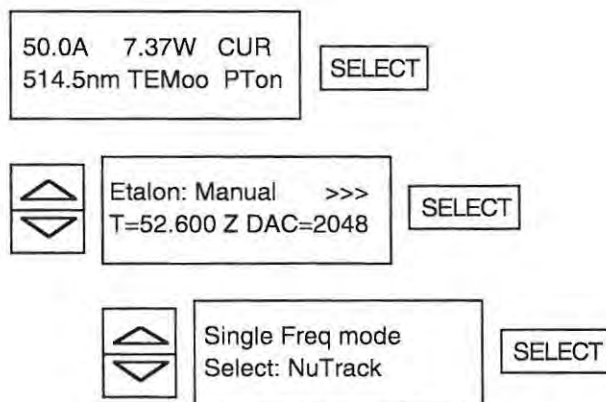

Figure 8-10. Single-Frequency Mode Control Path
33. Temperature tune the etalon for maximum single-frequency power by activating ModeTune. Refer to the ModeTune section later in this chapter and Figure 8-10, with the "ModeTune" parameter selected, to activate ModeTune from the remote.
To start ModeTune at any time (after the laser is on and the etalon warmed up), navigate the menu tree as shown in Figure 8-10 to enter the Single Freq mode select sub-menu. Use the up/down arrows to scroll to ModeTune and press SELECT. ModeTune will begin and "ModeTune" will be displayed on the first line of the "Etalon Menu" top level while ModeTune is running. ModeTune will also turn on PowerTrack and Current Regulation while running.
To start ModeFineTune at any time (after the laser is on and the etalon warmed up), navigate the menu tree as shown in Figure 8-10 to enter the Single Freq mode select sub-menu. Use the up/down arrows to scroll to ModeFineTune and press SELECT. ModeFineTune will begin and "FineTune" will be displayed on the first line of the "Etalon Menu" top level while ModeFineTune is running. ModeFineTune will also turn on PowerTrack and Current Regulation while running.
To start v-Track at any time (after the laser is on and warmed up), navigate the menu tree as shown in Figure 8-10 to enter the Single Freq mode select sub-menu. Use the up/down arrows to scroll to NuTrack and press SELECT. v-Track will begin and "NuTrack" will be displayed on the first line of the "Etalon Menu" top level while v-Track is running.
To start ModeTrack at any time (after the laser is on and warmed up), navigate the menu tree as shown in Figure 8-10 to enter the Single Freq mode select sub-menu. Use the up/down arrows to scroll to ModeTrack and press SELECT. ModeTrack will begin and "ModeTrack" will be displayed on the first line of the "Etalon Menu" top level while ModeTrack is running.